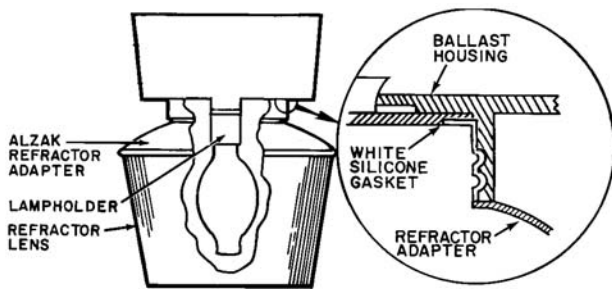

FIGURE 1
- 3) Carefully place the refractor over the lamp and thread refractor assembly into ballast housing. Hand tighten until it seats against the white silicone gasket. To provide the proper seal, refractor must seat against the white silicone gasket. (See Figure 1)